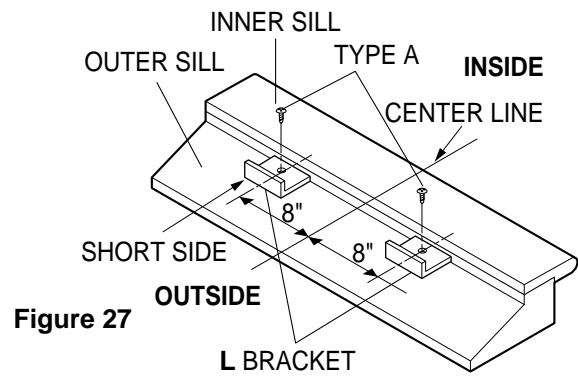

Figure 27
- Carefully lift the air conditioner and slide it into the open window. Make sure the bottom guide of the air conditioner drops into the notches of the L bracket. See Figure. 27.